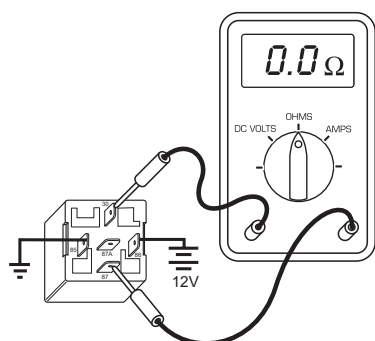

Figure 54
- Continuity test. Connect a 12-volt power source to terminal 86 (Figure 54). Connect a ground source to terminal 85. Connect ohmmeter between terminals 87 and 30. Ohmmeter must indicate **continuity**.